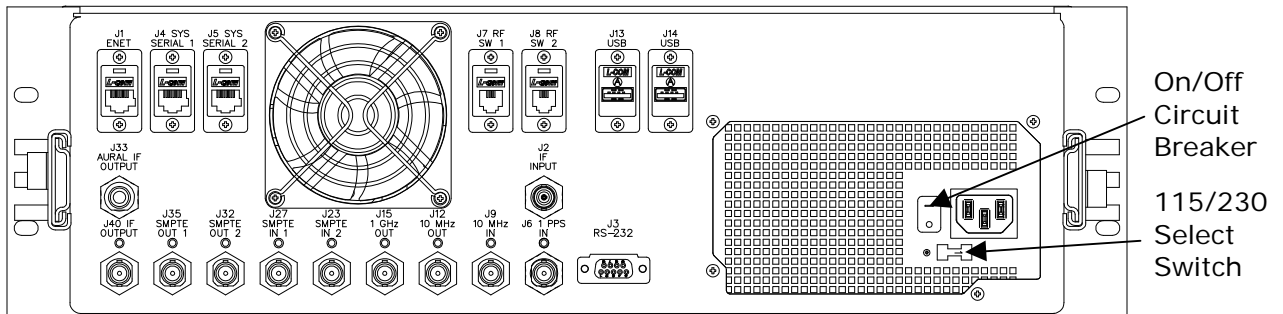

Figure 2-4: Axciter Modulator Tray, Rear View
Note: Refer to Figures 2-4, 2-5 & 2-6 for the location of the rear panel connections.
1. Using the supplied cables and any other cables needed, make the necessary interconnections between the Exciter modulator tray and the upconverter/downconverter tray, in a tray-based system or the driver/amplifier chassis assembly, in a sled-based system. Refer to Figures 2-4, 2-5 & 2-6, the information in Tables 2-1, 2-2, 2-3 & 2-4 and the preceding block diagrams to aid in the reconnection of the system.